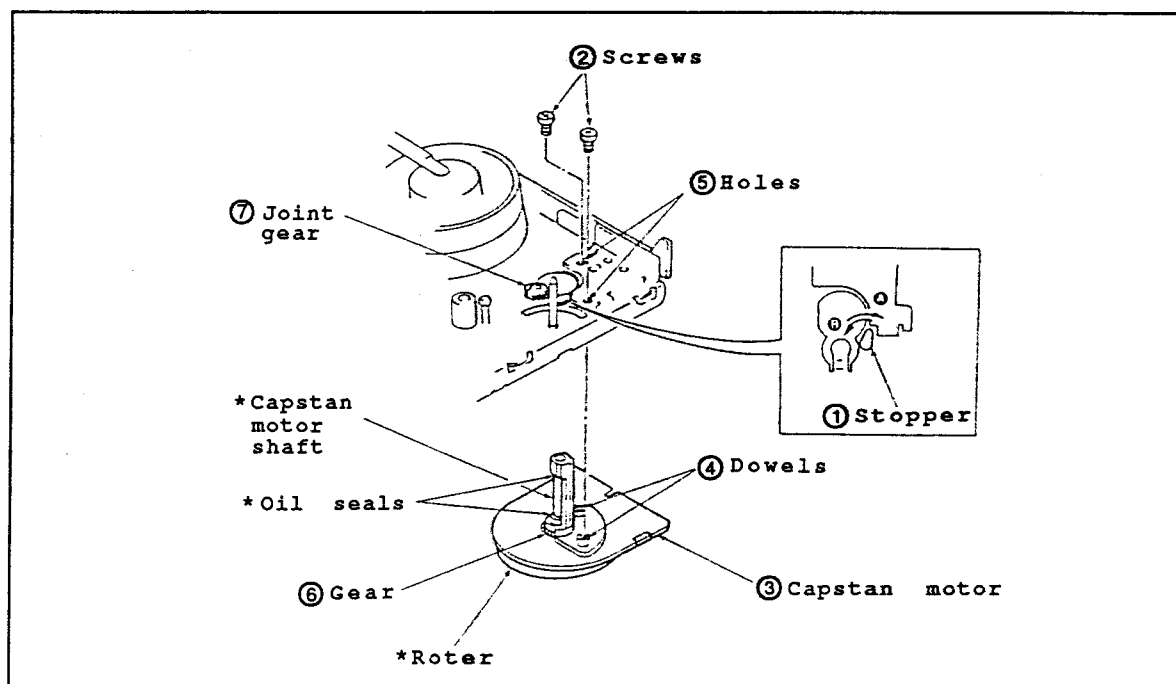

Fig.II-9
- Disassembling (Fig.II-9)
- (1) Set the unloading state.
- (2) Rotate the stopper ① in direction ④ until it comes to an end.
- (3) To take out the capstan motor ③, remove the two set screws ②.
- Reassembling (Fig.II-9)
- (1) Align the two dowels ④ with the two holes ⑤ to match the gear section ⑥ with the connecting gear ⑦.
- (2) Secure the capstan motor ③ with the two set screws ②.
- (3) Rotate the stopper ① in direction of ⑥ until it comes to an end.
- *Notes: 1. Do not match the gear section ⑥ and the connecting gear ⑦ forcibly to prevent the cam grooves damaging.